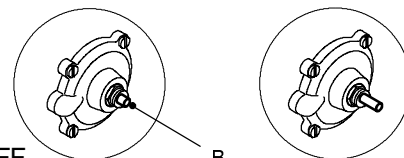

Fig. 51
- 3 Looking through the switch box verify the position of the shaft B referring to Fig. 51.